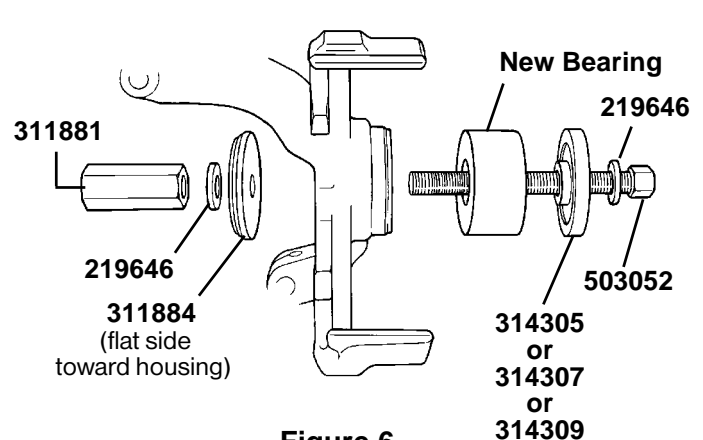

Figure 6
- The **1995-2001 Contour/Mystique** application uses bearing installer No. 314307. See Fig. 6.
- The **1991-99 Escort/Tracer** application uses bearing installer No. 314305. See Figure 6. **Important: To prevent damage to the seal lip, remove the seal before installing the bearing.**
- The **1993-99 Villager** application uses adapter No. 314309. See Fig. 6.